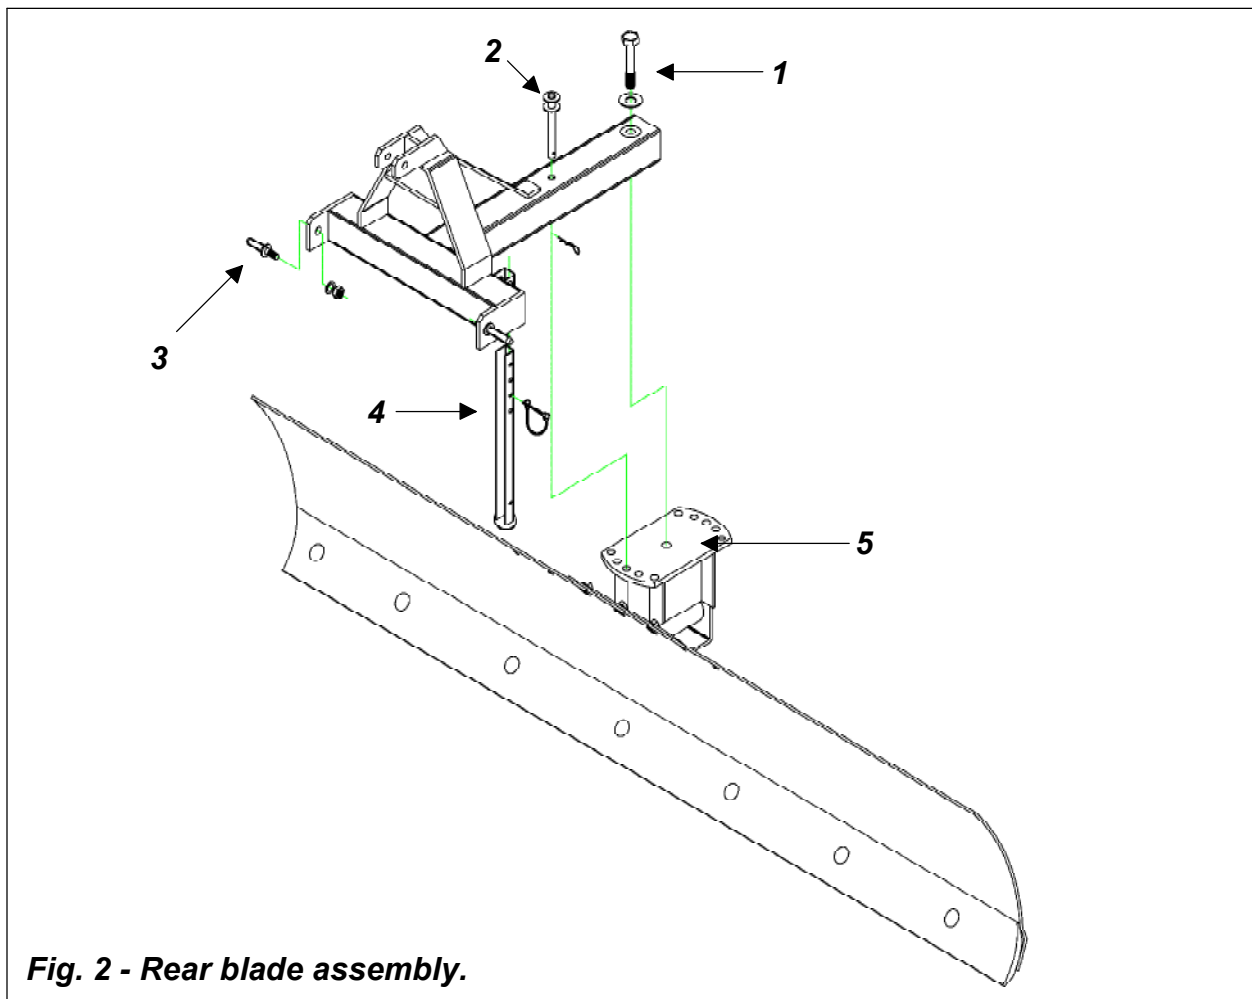

Fig. 2 - Rear blade assembly.
1. Securely block blade assembly with blocks or stands so that swivel plate (see #5, fig. 2) is facing upward.
2. Position the "A" frame on top of the blade assembly, insert the swivel pin (**see #2, fig. 2**) and secure with lynch pin.
3. Insert the foot stand (**see #4, fig. 2**) in storage position to support the blade and secure with lynch pin.
4. Screw the pivot bolt (**see #1, fig. 2**) and washer (1"x6" hex bolt on the standard series or the 3/4"x5" hex bolt on the subcompact series) to the welded nut on the blade assembly and tighten to correct torque².
5. Insert right and left hitch pins (**see #3, fig. 2**) to the holes on the "A" frame. Insert 7/8" lock washer and 7/8" hex nut and tighten down securely.